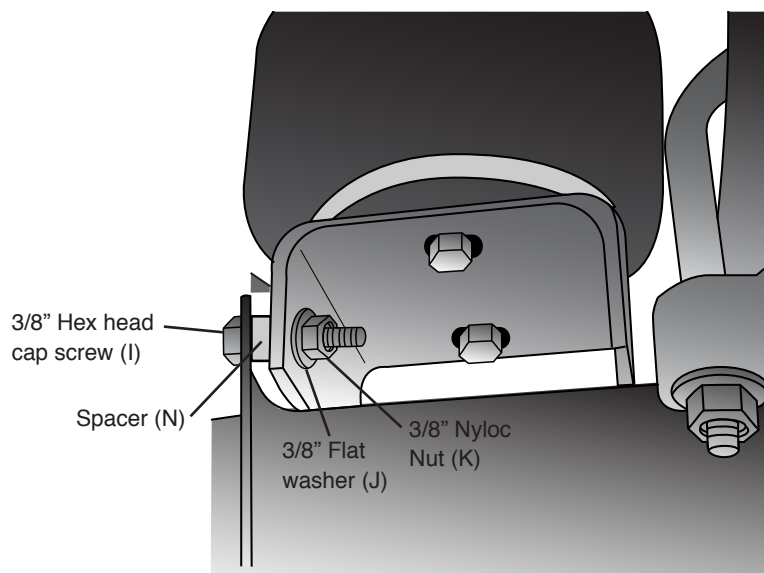

fig. 5
5. Insert the spacer (N) between the shock bracket and the lower bracket (fig. 5).
- a. Check the air line connection by deflating the spring and removing the line by pulling the collar against the fitting and pulling firmly on the air line. Trim 1" off the end of the air line. Be sure the cut is clean and square (see fig. 5). Reinsert the air line into the push-to-connect fitting.
3. If the preceding steps have not resolved the problem, call Air Lift customer service at (800) 248-0892 for assistance.